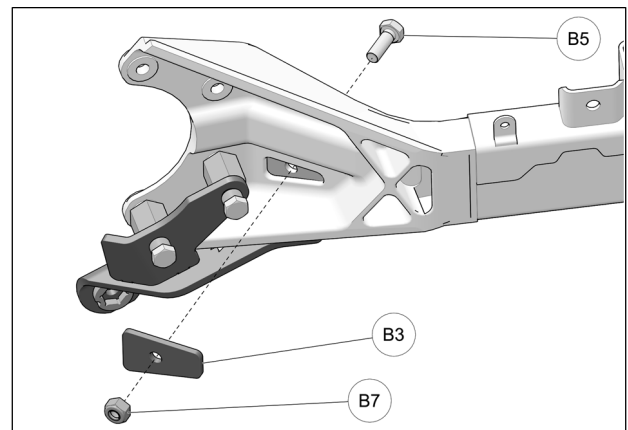

Fig. 9
9. Install cover (**B3**) inside trailing arm using the provided bolt (**B5**) and nut (**B7**). Tighten bolt to 50 N•m [37 lb•ft] of torque. See Fig. 9